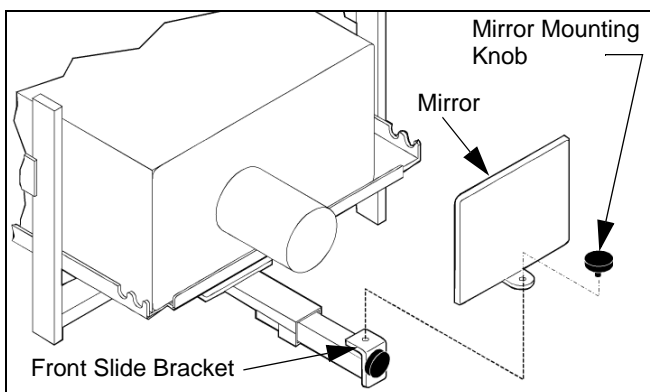

Figure 6: Install Mirror
3. Mount Mirror to Front Slide Bracket using Mirror Mounting Knob. (see Figure 6:)